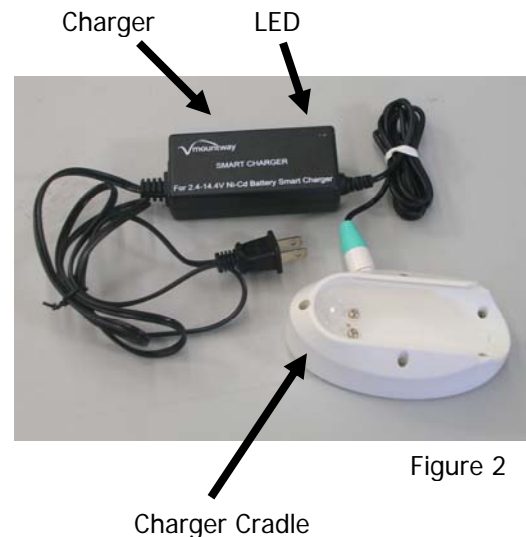

Figure 2
1. Slide the battery stick into the track on the charger cradle until it clicks into place (see fig. 2 on page 2).